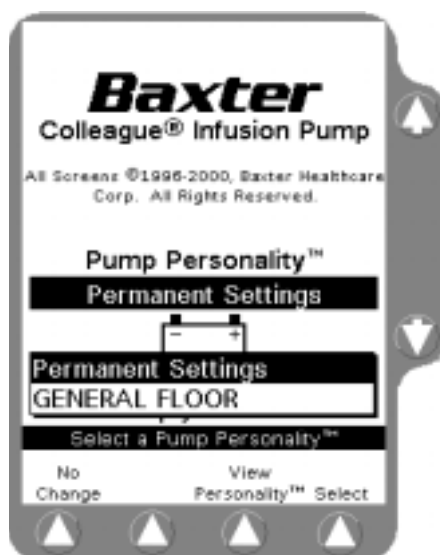

Figure 5-34 Examples of Custom Personality Feature Sets
2. Use the $\uparrow\downarrow$ keys to highlight the desired Personality feature set (Figure 5-34).